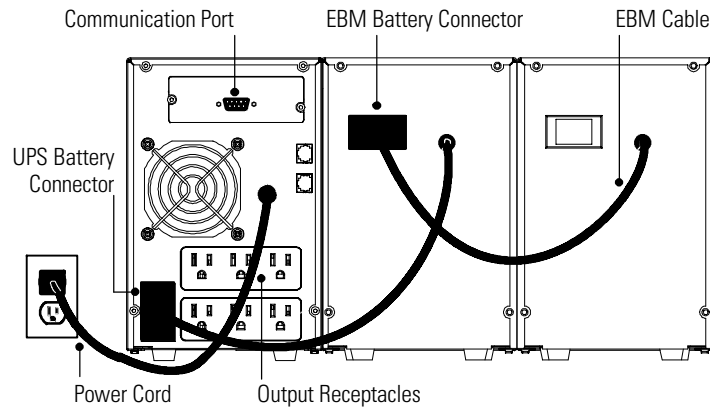

Figure 2. Typical Installation with Two EBMs
The following steps explain how to install the UPS. Figure 2 shows a typical installation only. See “UPS Rear Panels” on page 20 for the rear panel of each model.
2. Plug the EBM cable into the battery connector on the UPS rear panel (see Figure 2).